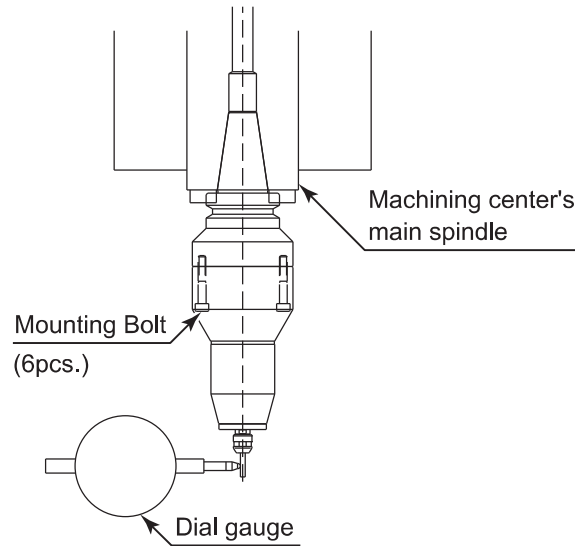

Fig. 23
* If there is difference in the measurement, adjust the Brushless Motor Spindle centerline. With the Brushless Motor Spindle installed in the machining center's main spindle, use a dial gauge on the test pin originally provided in the collet. Slightly loosen the 6 bolts that hold the taper housing together, then slightly tap the spindle to reposition the X - Y concentricity. Rotate the machine's main spindle by hand to verify the concentricity. Carefully re-tighten the 6 bolts that were previously loosened (Fig. 23).